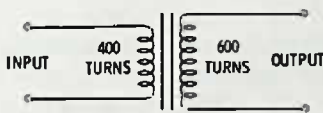

Fig. 3-14. Circuit for Questions 12 and 13.
12. In Fig. 3-14, if the output voltage is 30 volts, assuming no losses in the transformer, what is the input voltage?
13. In Fig. 3-14, if 50 volts steady direct current is applied to the primary winding, the steady output voltage will be